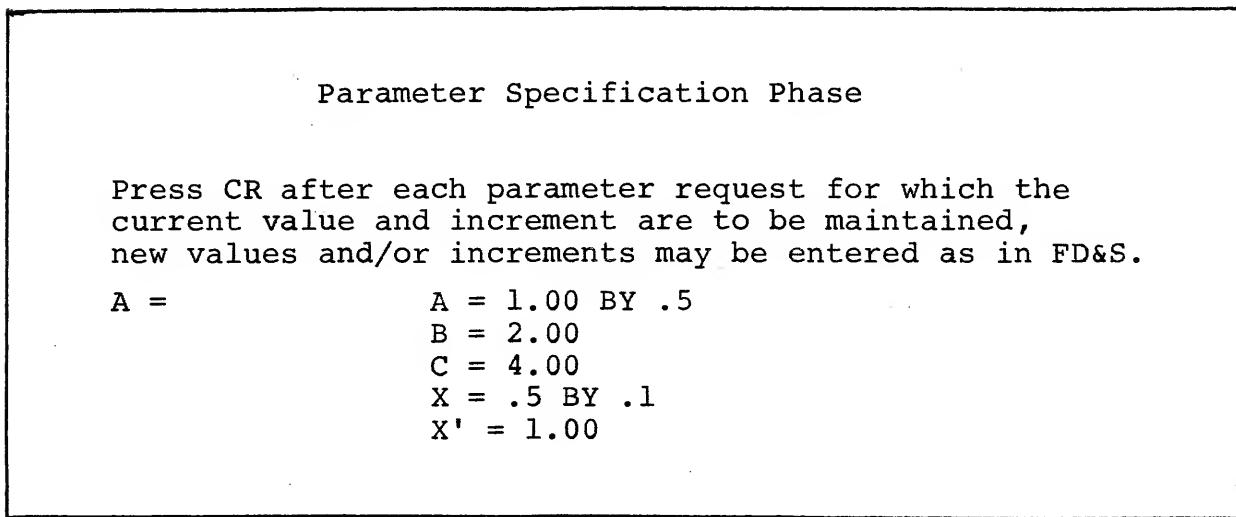

Figure 17
When entering the PS phase a message is displayed, all current parameter values and increments are listed, and a value for the first parameter is requested. For example, if we have defined only one function X(T) by a differential equation, e.g., $X''(T) = A*Y' - B*X + B$, then when entering the PS phase the screen might appear as shown in Figure 17.